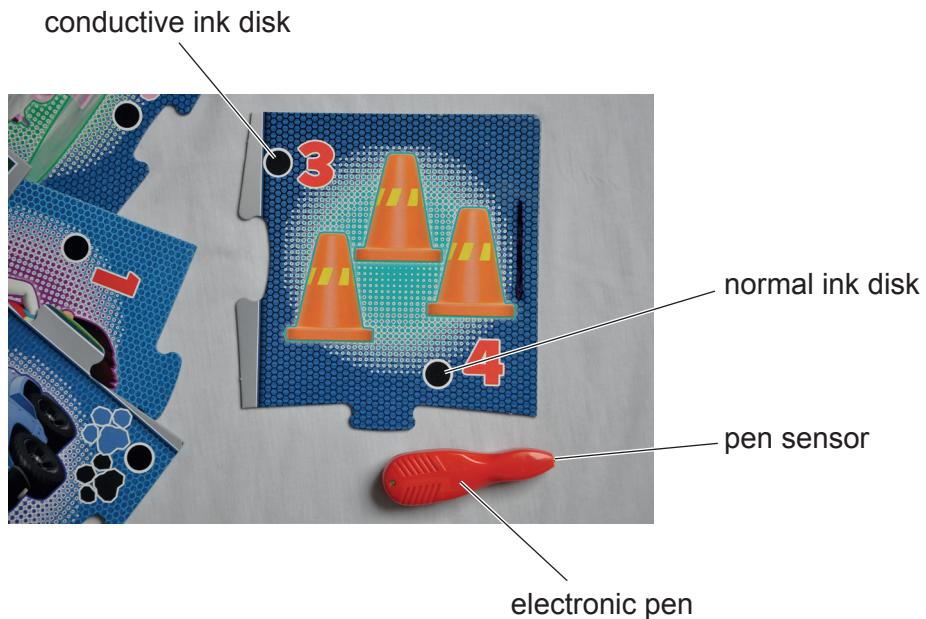

Fig. 4.1
- 4 Fig. 4.1 shows parts of a puzzle toy. The puzzle helps children learn to count and identify numbers.